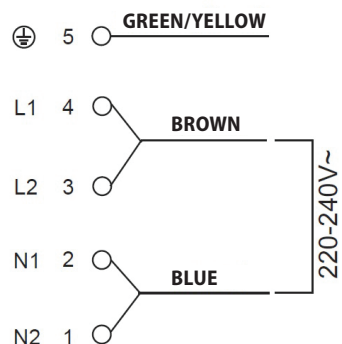

Fig. 11
- The hob is already supplied with a mains cable. In case it is necessary to replace the mains cable due to damage, Fig. 11, shows the wiring of the terminal box.